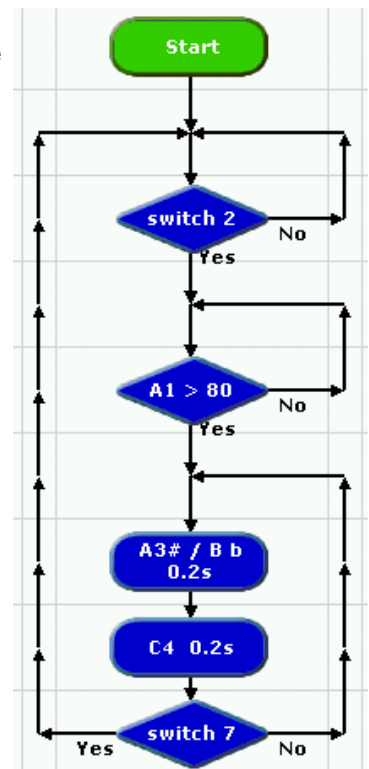

Fig 8. Temperature alarm
Fig 8 shows a program for a system that sounds an alarm if a machine overheats to a temperature over 80°. It uses the variable resistor to simulate a temperature sensor.
Build the program shown in Fig 8. Test run it. Then download it to the T-board.
2. Edit Fig 8 to make a system that sounds an alarm if the light level falls below 20. Extend the system so that the alarm can be switched off by switch 7, but also switches off automatically if the light level rises above 20.